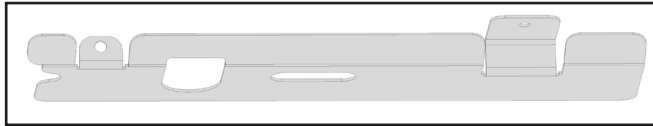

Figure 36: The cable guard plate
4 Find the cable guard plate (see Figure 36) opposite the bottom plate and unscrew the two (2) 2.5-millimeter hex socket button head screws that secure it to the device chassis. Handle the cables of the Strip pusher position sensor that run under the plate with care.